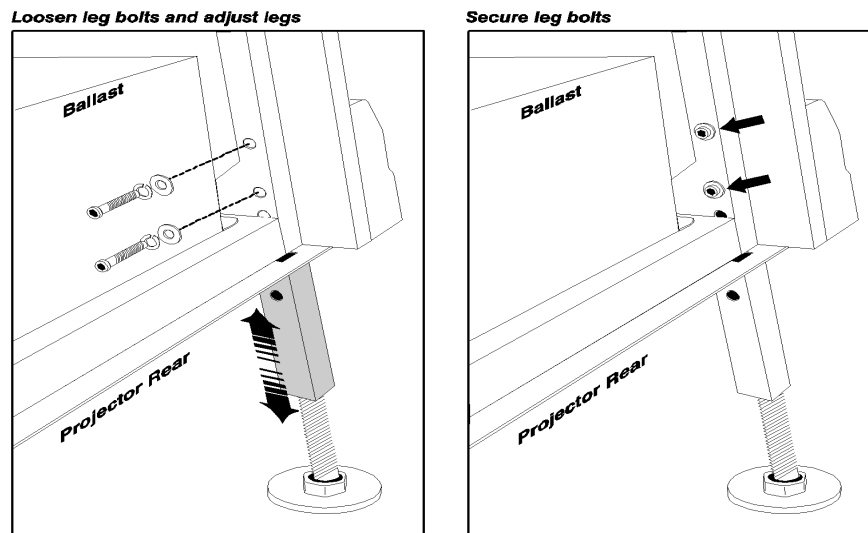

Figure 2-31 Adjust Rear Extender Legs
5. On each side of the rear opening in the pedestal, loosen the 2 bolts securing the rear extender legs to the projector (**Figure 2-31**).